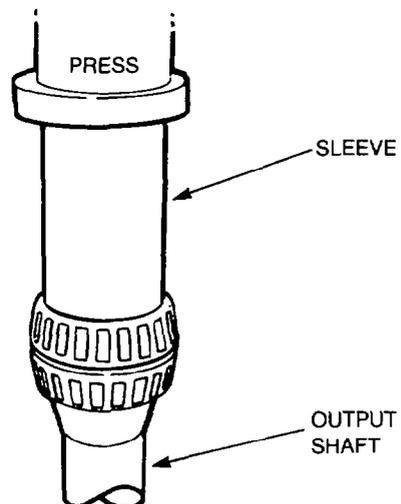

Figure 218 — Installing Through Shaft Bearings
- be. Lubricate the through shaft bearings cones with differential oil, then start the bearing cones onto the through shaft, ensuring that the wide end of the bearings butt together. Position the assembly in the hydraulic press, and with a suitable sleeve, press the bearings into position on the shaft (see Fig.218).